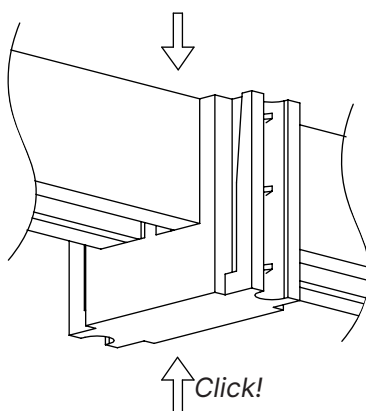

Fig. 4
2. If desired, the **Spacer Clip** can be removed using a **Phillips Screwdriver** (Fig. 4).
4. Position **Tap Hanger** under **Upper Power Bar** at junction with **Double Cord Power Feed Hanger** (Fig. 3). Press down firmly on top of the Upper Power Bar, while pressing up on the bottom of Tap Hanger, until Tap Hanger clicks into place (Fig. 4).